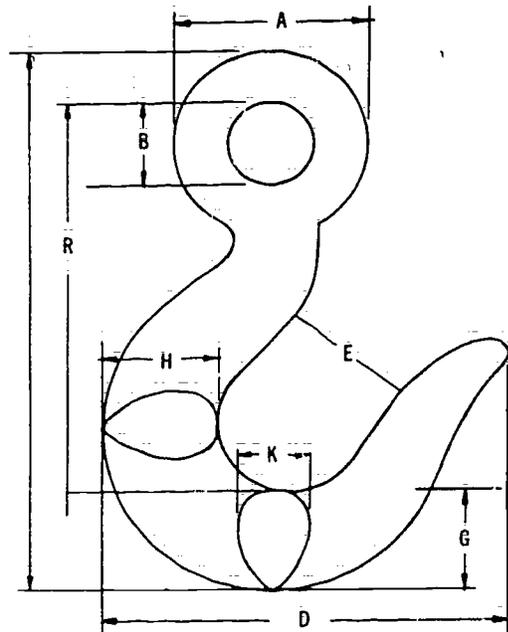

Figure 7-79. Standard Eye Hook
1. **A Standard Eye Hook** is illustrated in Figure 7-79. The different dimensions are labelled for reference on the dimension and load charts to follow.